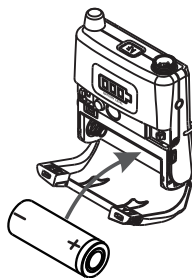

Fig. 35
- (B) Insert one 18500 type lithium battery according to correct polarity, Fig. 35.